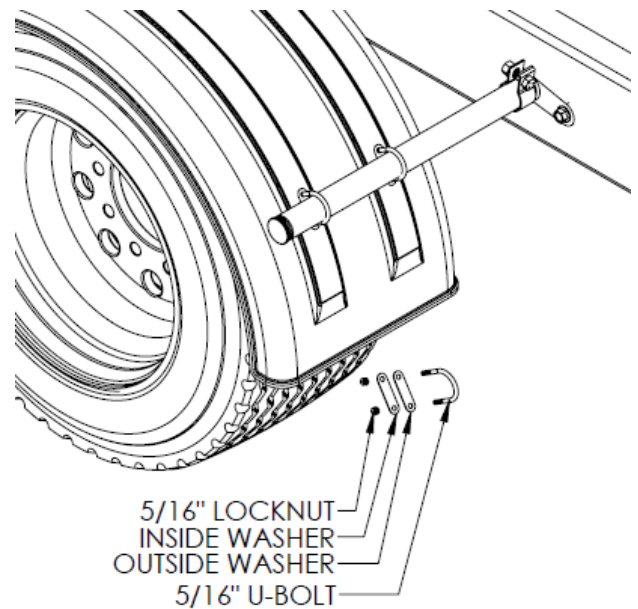

Figure 13
- d. Place one washer on the inside and outside of the fender. Use two U-bolts per bracket. There are two extra sets of u-bolts, washers and nuts provided in the kit (See Figure 13).